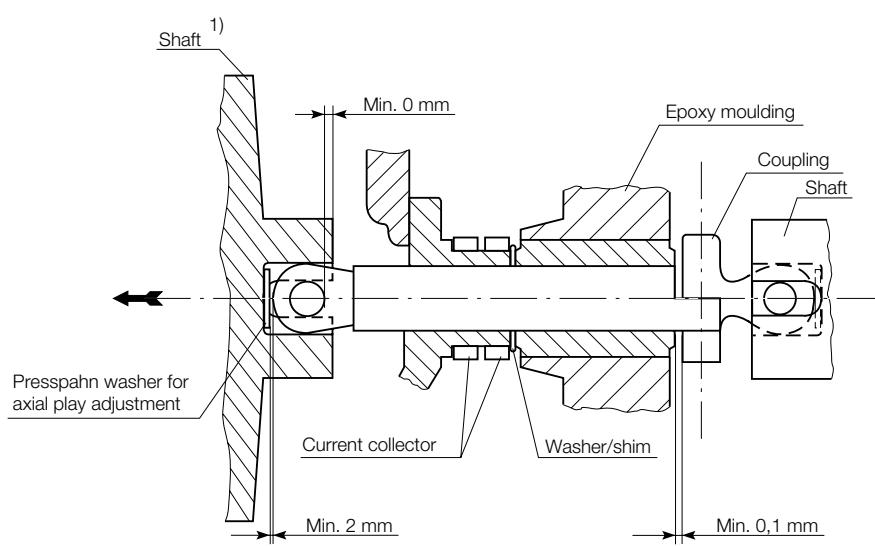

Fig. 7. Play check/adjustment.
16. Check that the contact arms are in equal position and in the position indicated by the motor-drive mechanism, see single-phase diagram. Check all plays shown in Fig. 7 and adjust by adding or removing shims if necessary.